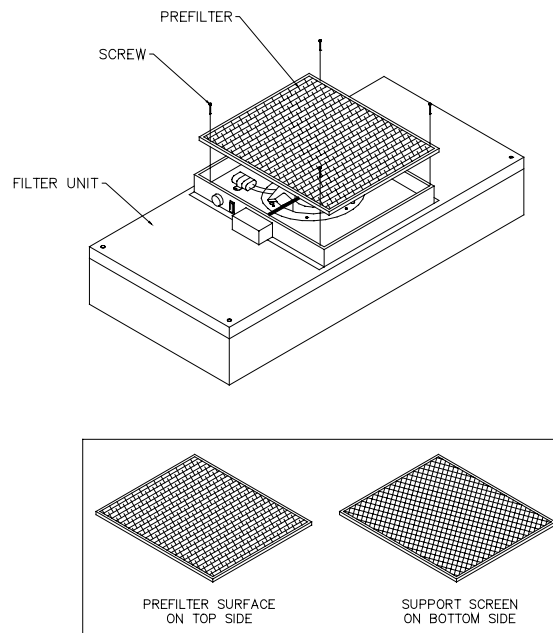

Figure 2
Step 2. Remove the four screws and lift the prefilter off the prefilter frame. (see Figure 2).